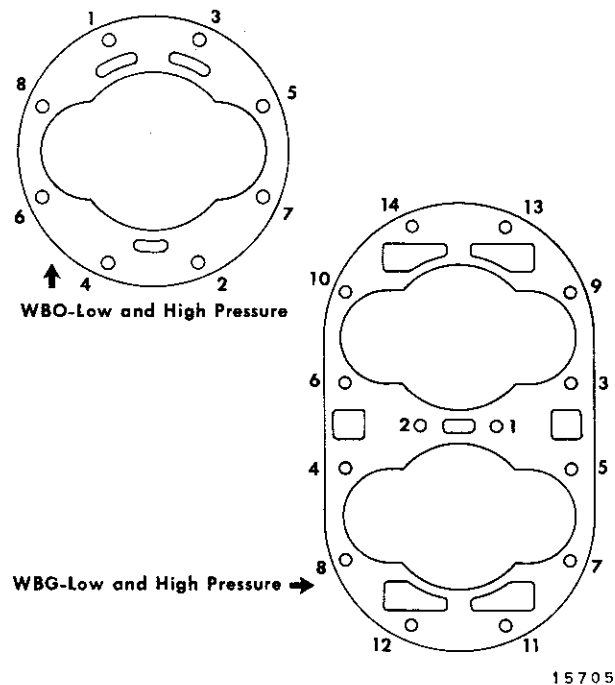

Fig. 18 — Cylinder Head Tightening Sequence
11. Install the intercooler, then tighten the intercooler, cylinder head, and cylinder mounting bolts as explained in Step 7. Tighten cylinder head bolts to 120-130 ft-lbs following the pattern in Fig. 18.